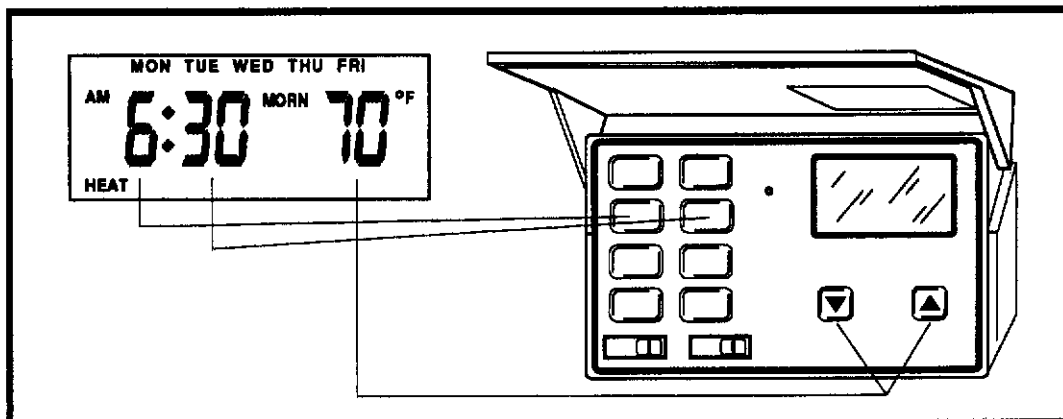

figure A-6
3. Press the temperature up  or temperature down  key to set the required temperature setting (figure A-6).